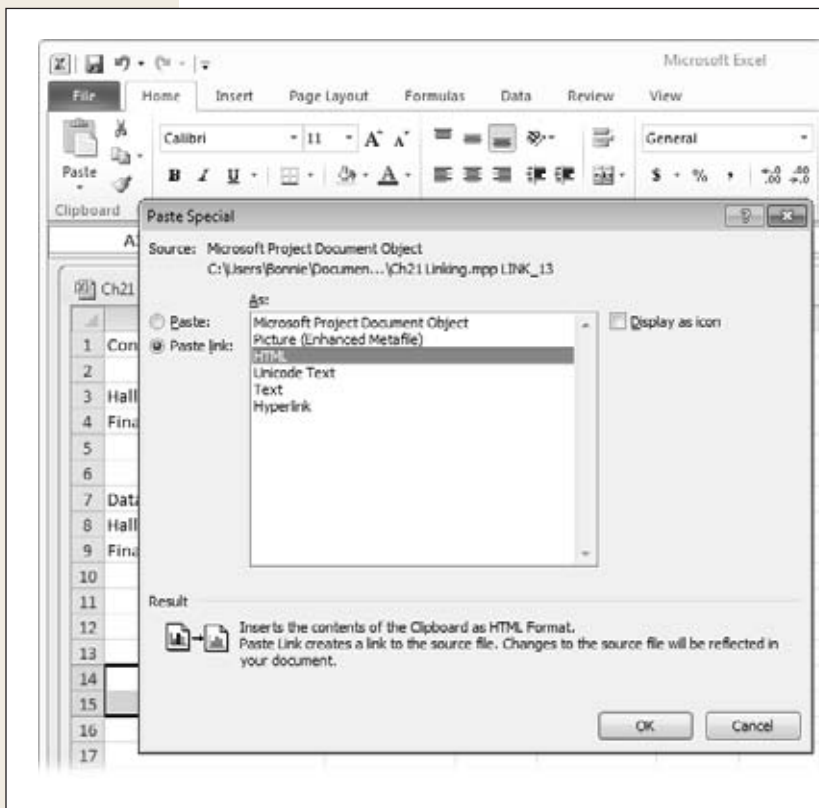

Figure 21-3:
5. In Excel, choose Home→Clipboard→Paste→Paste Special. In the Paste Special dialog box, select the Paste link option, as shown in Figure 21-3. Select HTML or Text, and then click OK.